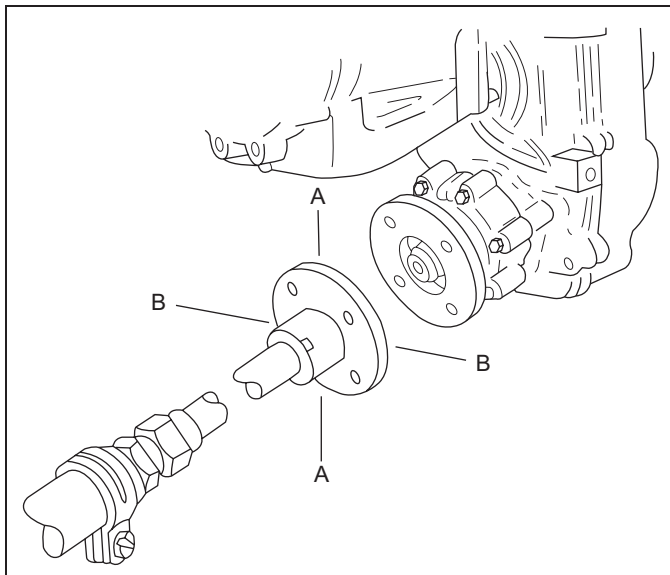

Figure 10-22 Centering Prop Shaft
2. Center the propeller shaft in the shaft log as follows (Figure 10-22):